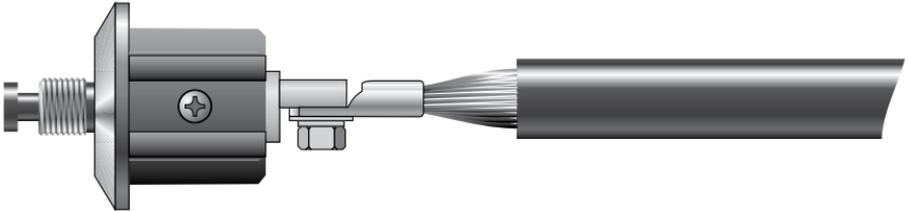

Figure 26.
6. Connect the crimp lug to the Stormmaster mast base assembly using the bolt and washers as supplied with the assembly. Ensure the connection is aligned correctly and tightly secured using a 17 mm spanner, socket or shifting spanner. Note orientation of lug on lower finial connector (Figure 26).